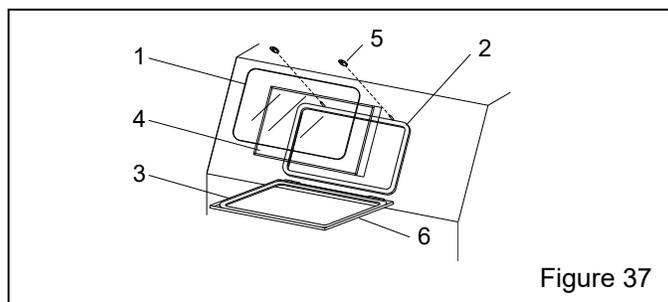

Figure 37
9.4 View-Window Assembly – Figure 37